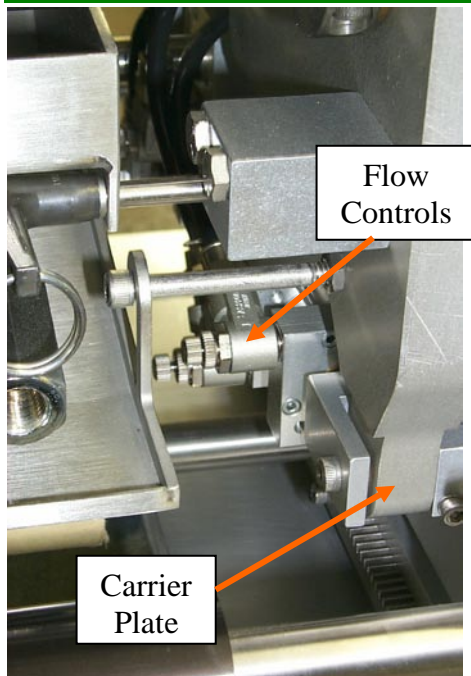

Figure E3-1: Inking System Carrier
3. Confirm that the flow controls for the Anilox Roll air cylinder(s) are not excessively restricting airflow. If these flow controls are closed, the Inking System Carrier plates will not move properly (Figures E3-1 & -2).